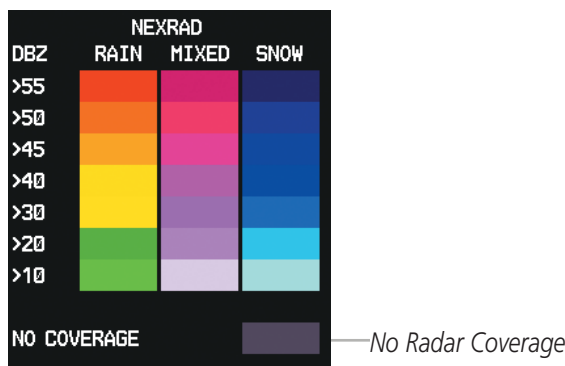

Figure 6-11 NEXRAD Data with Legend
- 1) Press the **MAP** Softkey (for the PFD Inset Map, press the **INSET** Softkey). This step is not necessary on the Weather Data Link (XM) Page.
Composite data from all the NEXRAD radar sites in the United States is shown. This data is composed of the maximum reflectivity from the individual radar sweeps. The display of the information is color-coded to indicate the weather severity level. All weather product legends can be viewed on the Weather Data Link (XM) Page. For the NEXRAD legend (Figure 6-11), press the **LEGEND** Softkey when NEXRAD is selected for display.